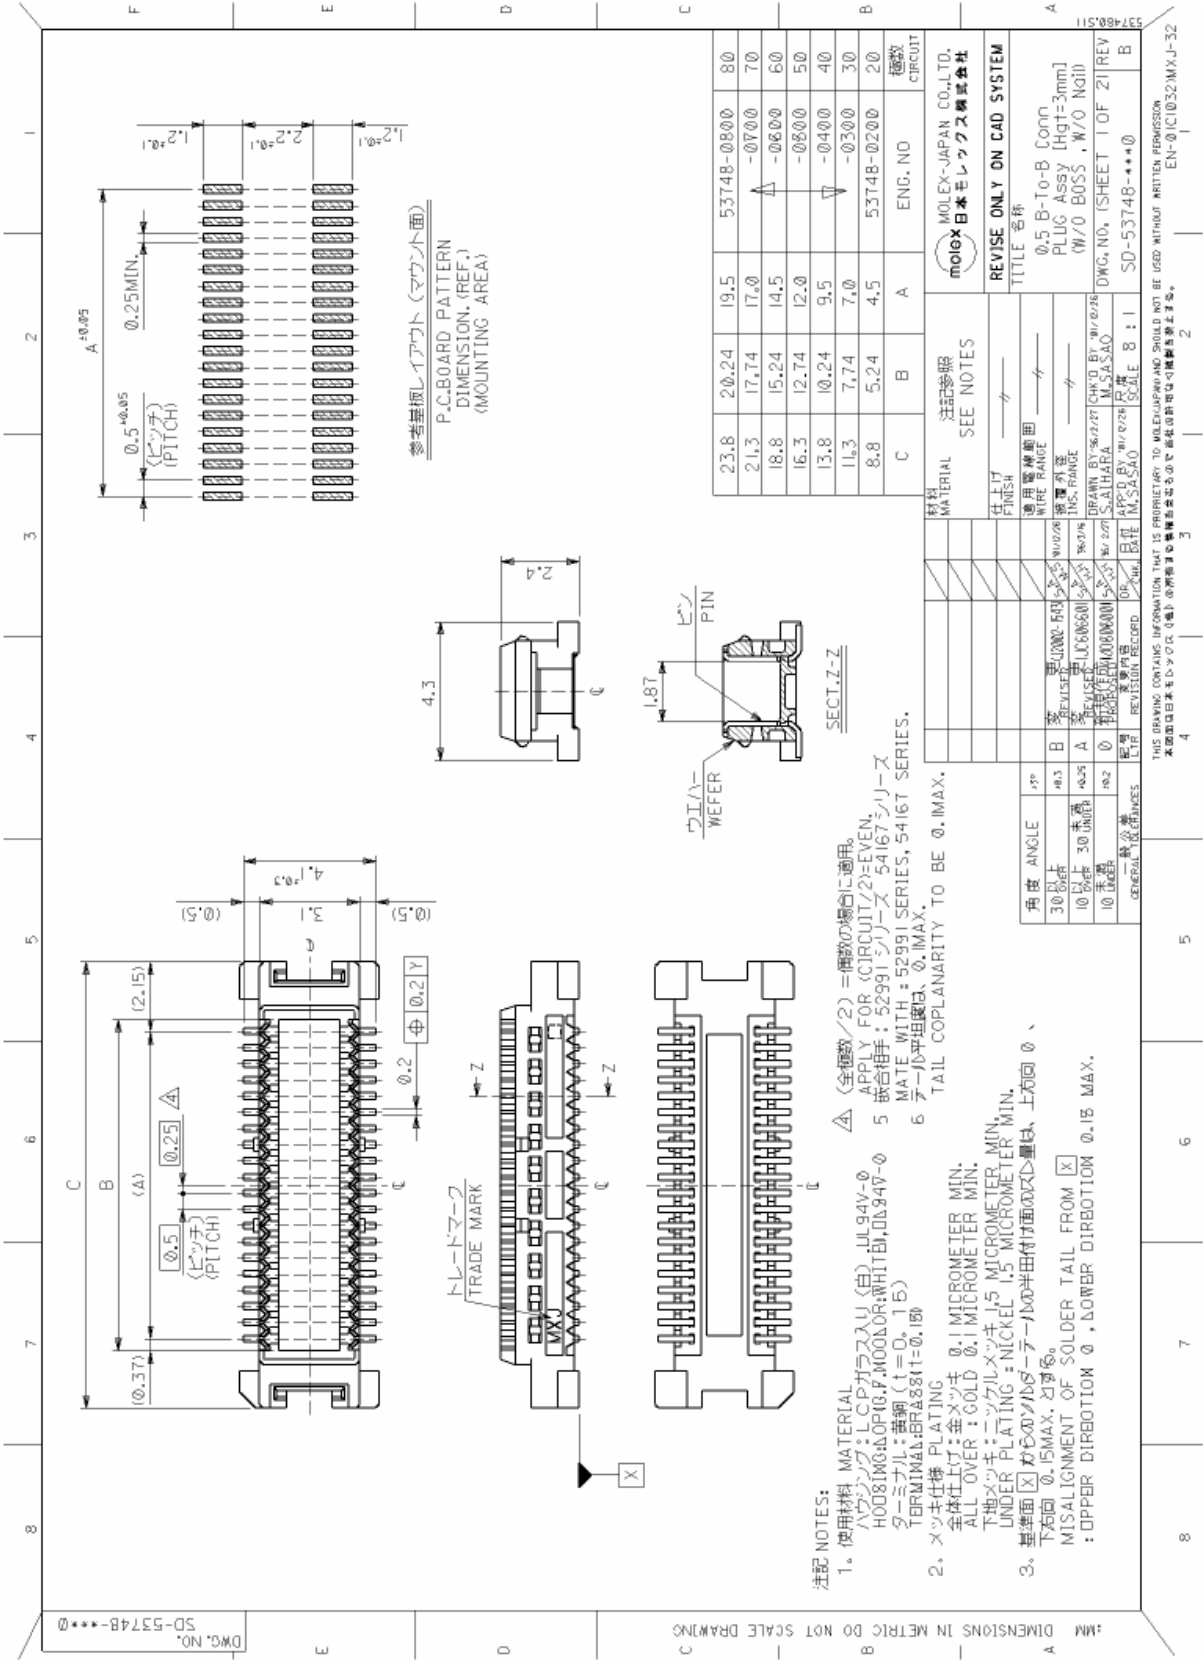

Figure 40: Mating board-to-board connector 53748-0808 on application
- 53748-0808 SlimStack Plug, 3mm stacking height, see Figure 40 for details.